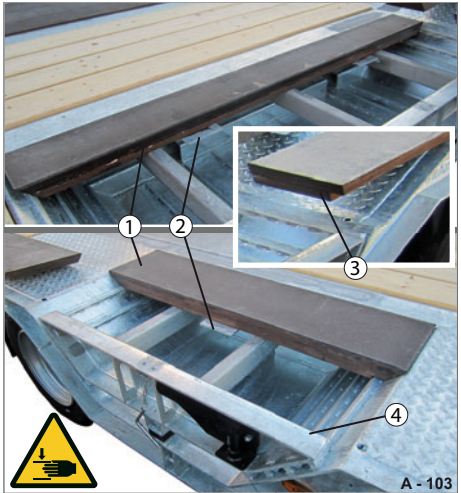

Fig. 112 Placing cover boards
► Place the cover plates (Fig. 112/1) from inside out - the plate tappets (Fig. 112/2) must point outward.
► The cover plate with overlapping (Fig. 112/3) is placed last on the frame edge (Fig. 112/4).